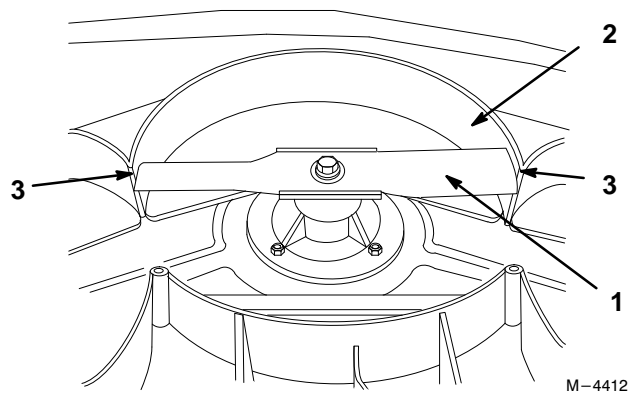

Figure 3
5. To determine where you need to drill holes, arrange the baffle in the mower as shown in Figure 3. Rotate the center blade to ensure that there is a 1/4" of clearance between the tip of the center blade and the baffle.